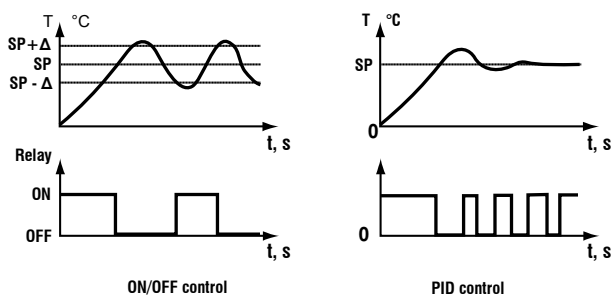

Fig. 1. Control
- On-Off or PID control (see Fig. 1)